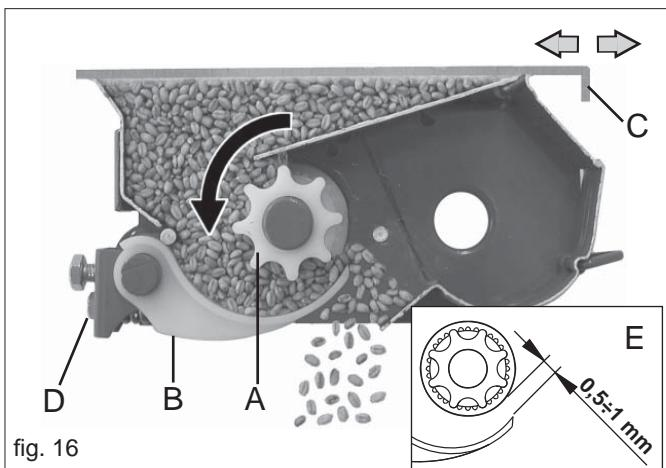

fig. 16
When the bottom plate (**B** Fig. 16) are correctly positioned they ensure smooth and steady distribution of the seeds.
- 3) using screw (**D**), adjust the distance between the feeler pin and the distributing roller to between 0.5 and 1 mm (**E** Fig. 16).
The seed gates for (C Fig. 16) closing off the seed flow from the hopper have two positions: